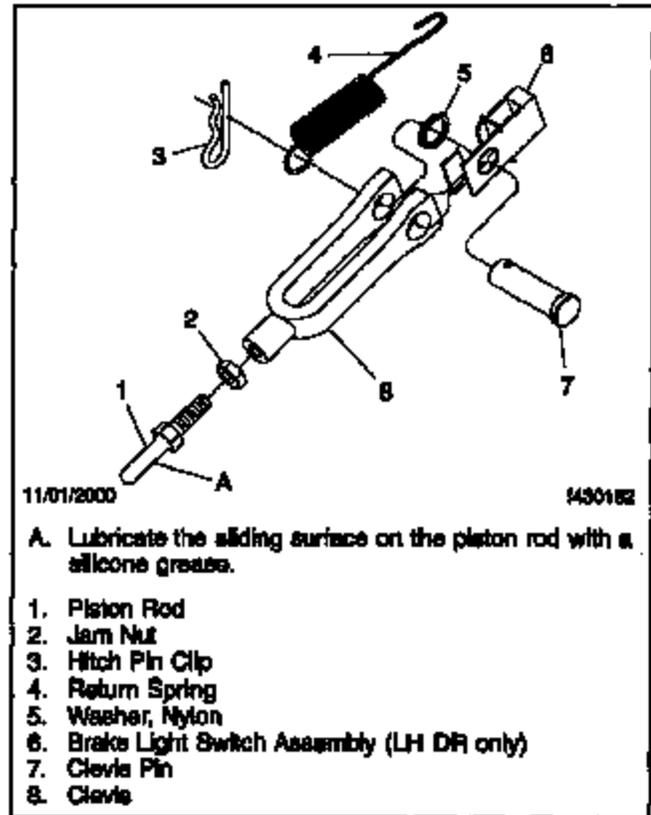

Fig. 6, Brake Control Assembly
11. Lubricate the sliding surface of the piston rod with a silicone grease. See Fig. 6. Do not grease the threads.
- 12.2 On left-hand-drive vehicles only, slide the brake light switch assembly over one arm of the clevis. See Fig. 6.
- 12.4 Insert the clevis pin from the left through the brake light switch (if equipped), clevis, brake pedal assembly, and nylon washer. See Fig. 6. Make sure the washer is between the brake pedal and the right arm of the clevis.